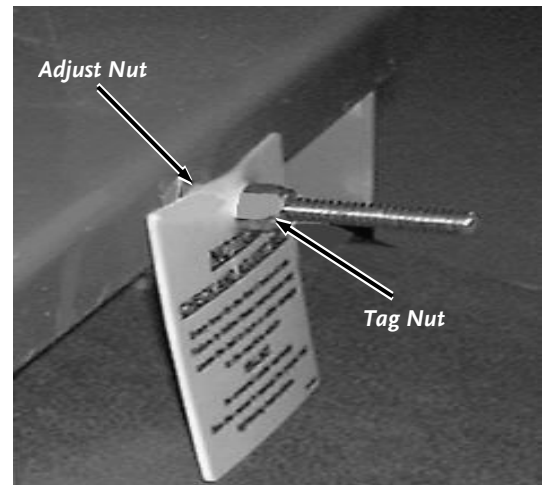

Figure 18
5. Use a 1/2" Wrench to back off the Tag Nut from the Adjust Nut (**Figure 18** on page 19).